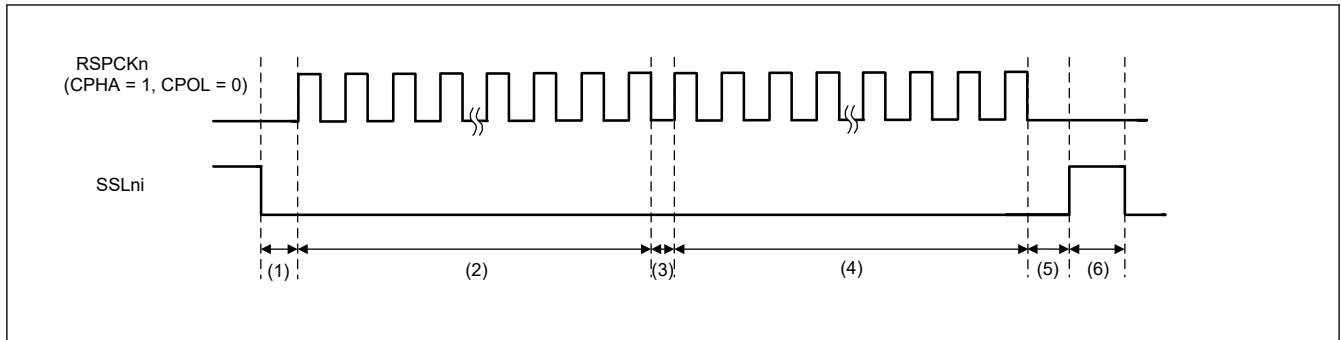

Figure 43.58 Example of Burst Transfer Operation Using SSLKP Bit (BFDS = 1, SPFRF = 0)
Figure 43.58 shows an example of SSLni signal operation when burst transfer is achieved by using the settings of SPCMD0 and SPCMD1. The following describes SPI operations of (1) to (6) shown in Figure 43.58. The SSLni output signal polarity depends on the set SPCR3.SSLnP (n = 0 to 3) value.